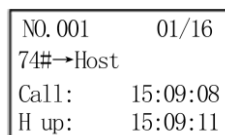

Fig. 11-1 Communication information interface
- 1) Select and enter 1. Call History by clicking "▲" or "▼", and each call, answer or hang-up time can be displayed, as shown in Fig. 11-1, up to 120 call messages can be queried. The second row on the liquid crystal displays the words "Call information + Section number", as shown in Fig. 11-2, indicating how many pieces of recording have been recorded, and can be played with the playback key. "11#->Host" means 11# extension calls the host; the "Host-slave 11#" indicates that the host calls the 11# extension.
Method 1: After entering the main menu (with the first-level password), select and enter "1.Information Query" by pressing "▲" or "▼", and select the "1. Call Records" to display each call, answering, or hang-up time, up to 120 pieces of information, 99 segments of call records, which can be queried forward or backward by pressing "▲" or "▼", as shown in Fig. 11-1. The second line displays the words "Call Information + Segments", as shown in Fig. 11-2, showing the recorded content. At this time, press the "Playback" key to play the sound, the "Record/Playback" indicator (green) on the host panel is ON, and press "Stop" may stop playing or automatically stop playing when the segment of record is expired, and the "Record/Playback" indicator on the host panel is off.